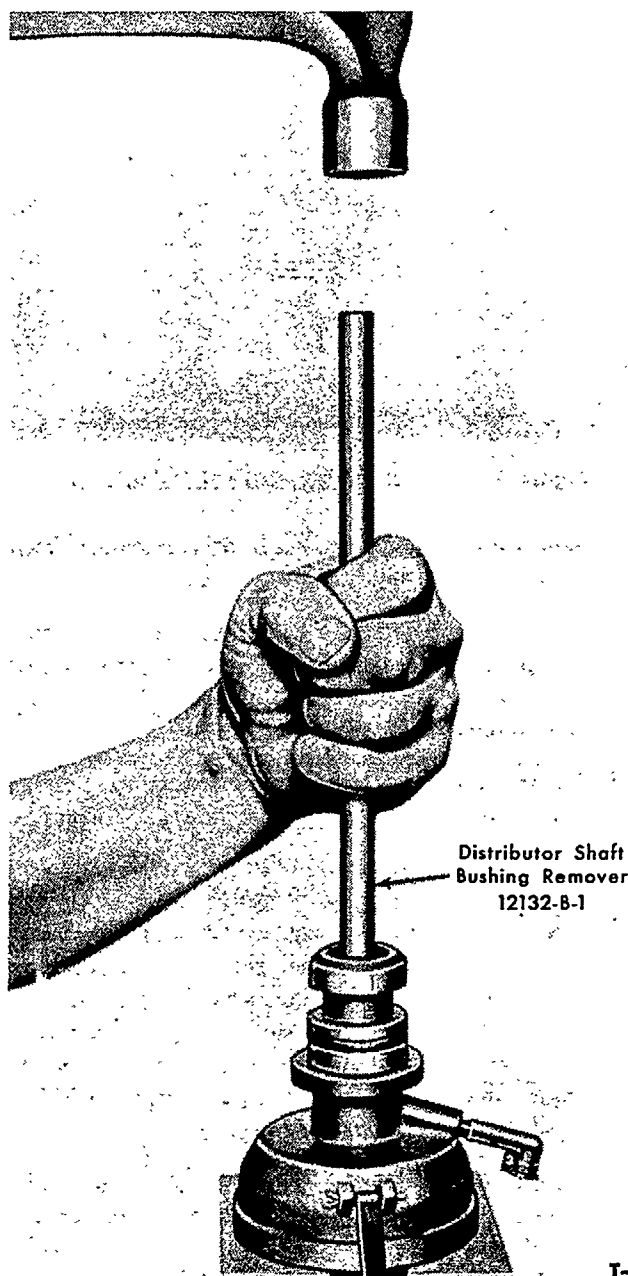

Figure 6—Removing Distributor Shaft Bushing
11. With the distributor base in the inverted position, drive the bushing out of the base with Distributor Shaft Bushing Remover 12132-B-1, as shown in Figure 6.